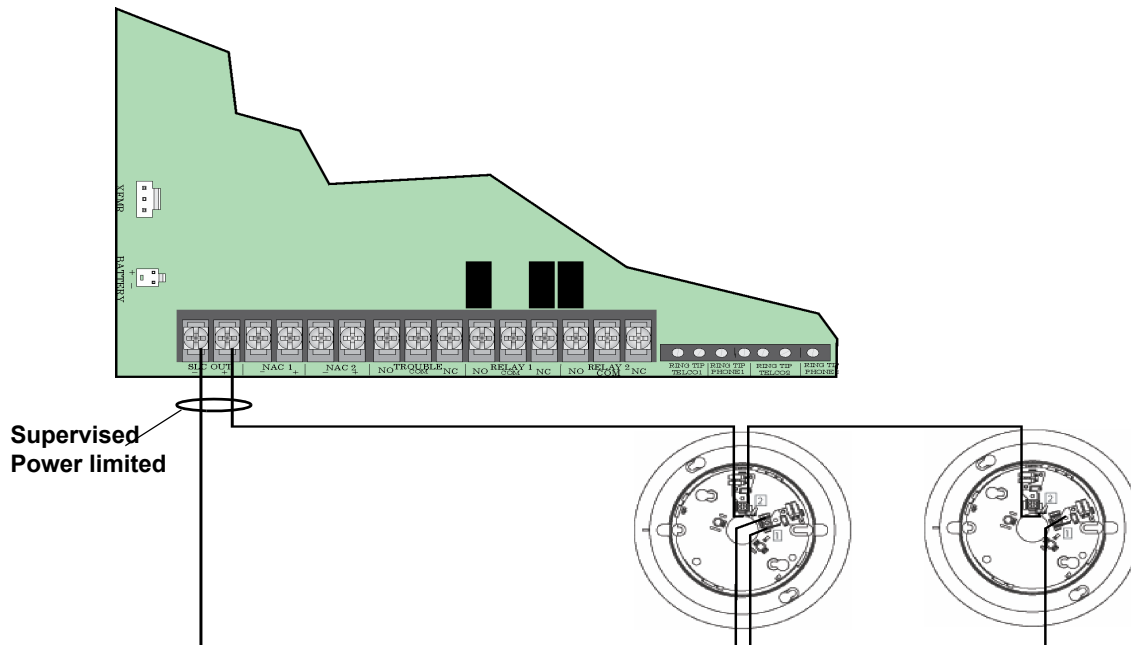

Figure 5-3 Heat and Smoke Detector Connection to the Panel.
1. Wire device bases as shown in Figure 5-3.